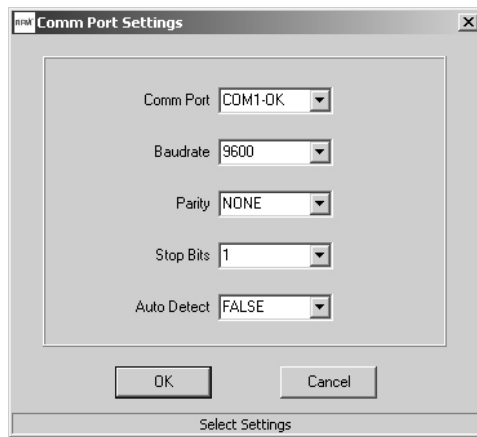

Figure 4
6. Click on the *Connect* button in the lower left of the main LPRDemo2 window to open the *Comm Port Settings* dialog window, as shown in Figure 4. Set the *Baudrate* to 9600 b/s. Set the *Comm Port* to match the serial port connected to the Base, either the RS232 serial port or the USB virtual serial port. Then click *OK* to activate the serial connection.